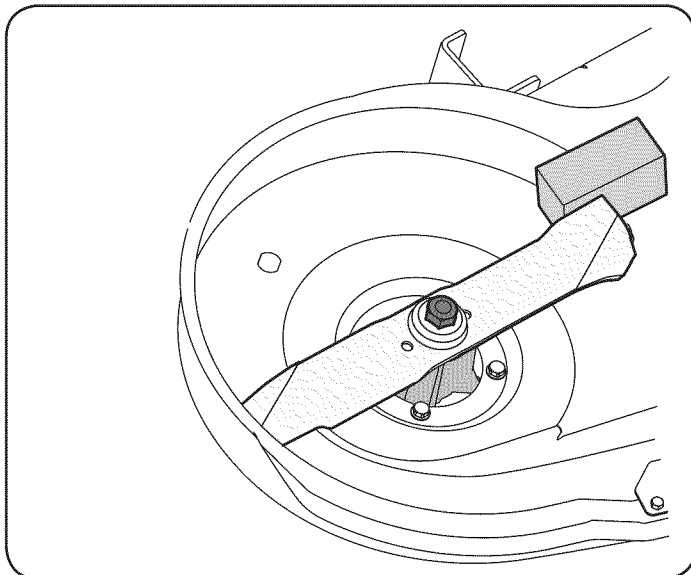

Figure 20
2. Place a block of wood between the center deck housing baffle and the cutting blade to act as a stabilizer. See Fig. 20.
3. Remove the hex flange nut that secures the blade to the spindle assembly. See Fig. 20.